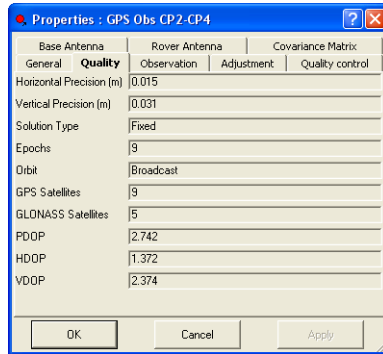

Figure 5-123. Quality Properties
4. View *Quality* tab fields which contain the fields for viewing (Figure 5-123 on page 5-86):